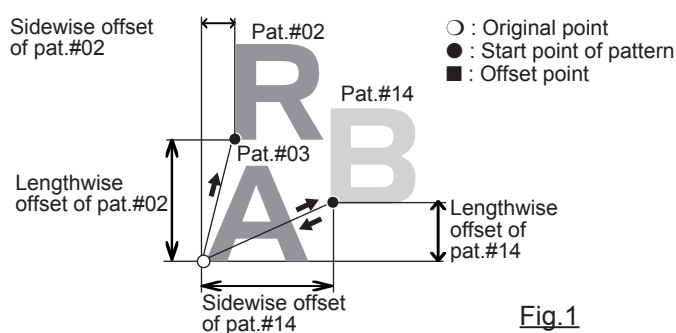
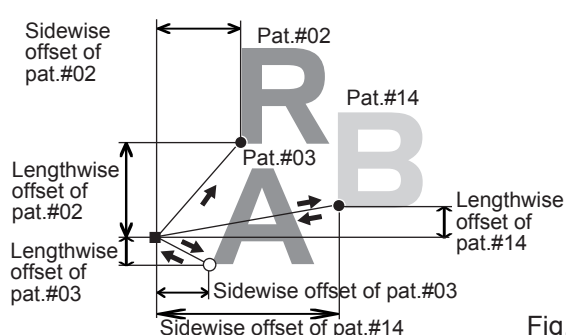

Fig.1
Fig.2
- If you embroider a pattern like in Fig.1, you will need to set an offset as a pivot to each pattern in advance. If the offset is set to the first pattern like in Fig. 2, you will need to set a setoff point to the first pattern with the offset of the other pattern as a pivot. P14-8